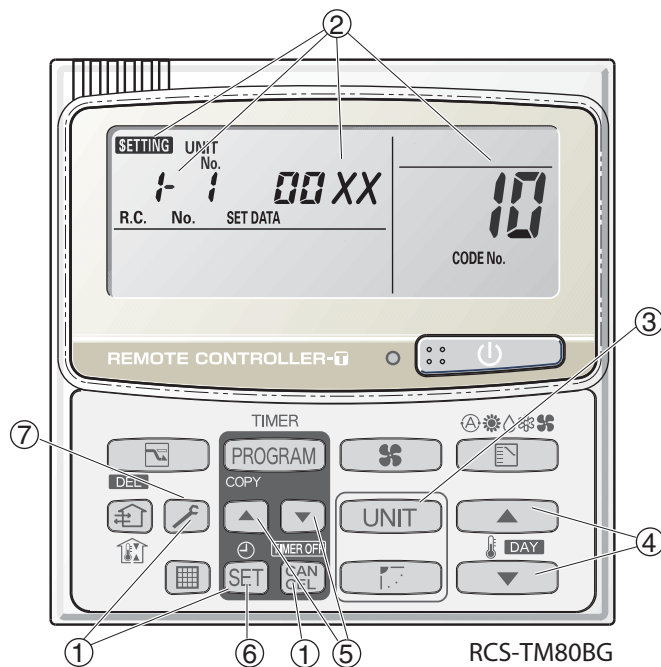

Fig. 2
- SETTING**, unit No. “**1-1**” (or “**ALL**” in the case of group control), item code “**10**”, and settings data “**00XX**” are displayed blinking on the remote controller LCD display (Fig. 2).